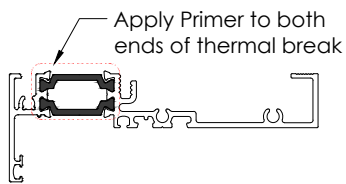

FIG. 1
- Apply *DOWSIL Primer-C* to both sides of thermal break. **See FIG 1.**